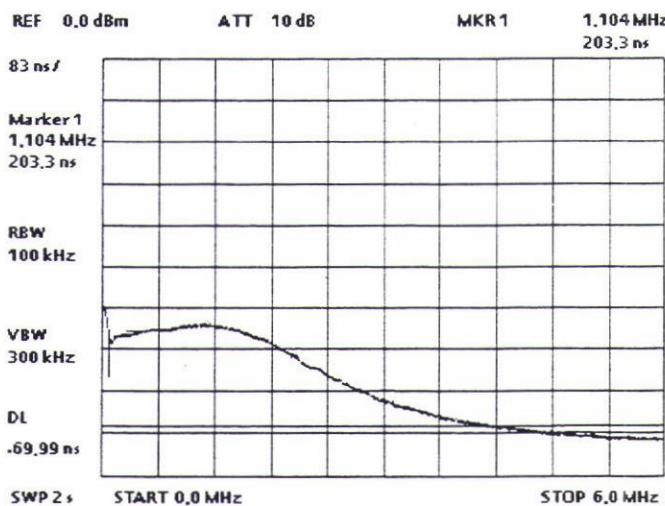

Fig. 7-6 Group delay of allpass filter 2
- Adjust the group delay with R341 so that a delay difference of approx. 204 ns is obtained between 1.1 and 4 MHz (see Fig. 7-6).